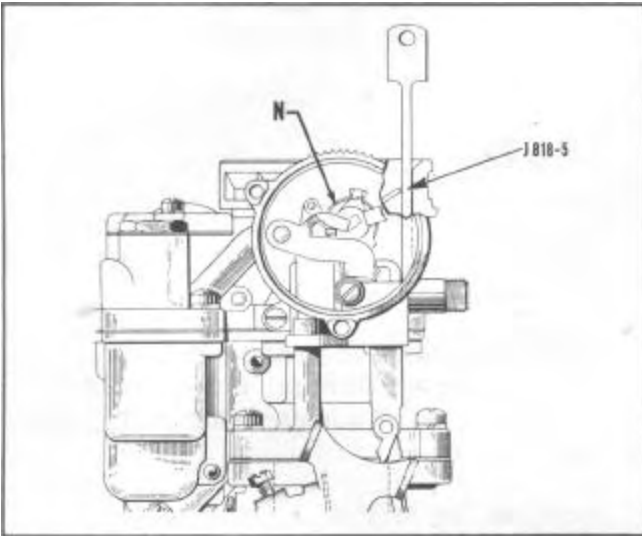

FIGURE 37
2. Check clearance between upper edge of choke valve and inner wall of air horn; this should be $1/8$ " (use Tool J-818-5), Figure 37.
3. If adjustment is necessary, bend arm (N) on choke trip lever (Use Tool T-109-187).